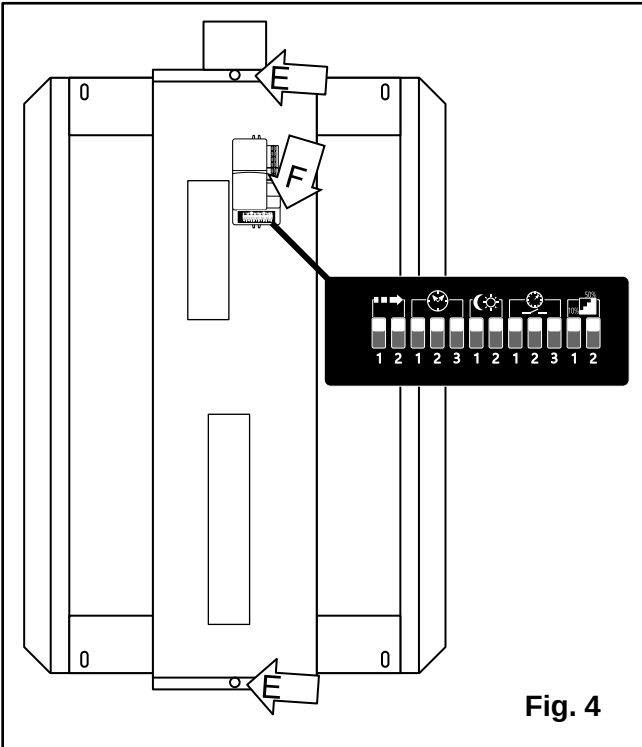

Fig. 4
2. Adjust the **dip switches on the motion sensor (F)** as desired. [Fig. 4 & 5]
3. Reattach the cover by reinstalling the two screws (E) that were previously removed.